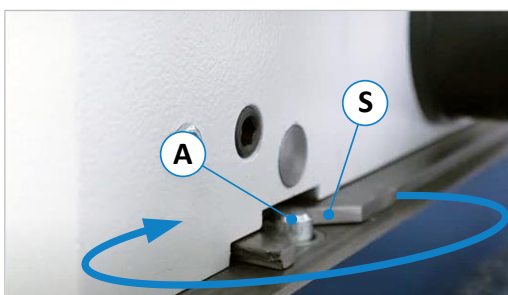

Figure 27: Lock and engage
- To ensure parallelism with the machine table, turn the fence slightly until the centring pins (Z) on the underside of the fence (hidden in the view) engage in the holes (B) on the machine table (see ⇒ Figure 27). A slight click can be heard.